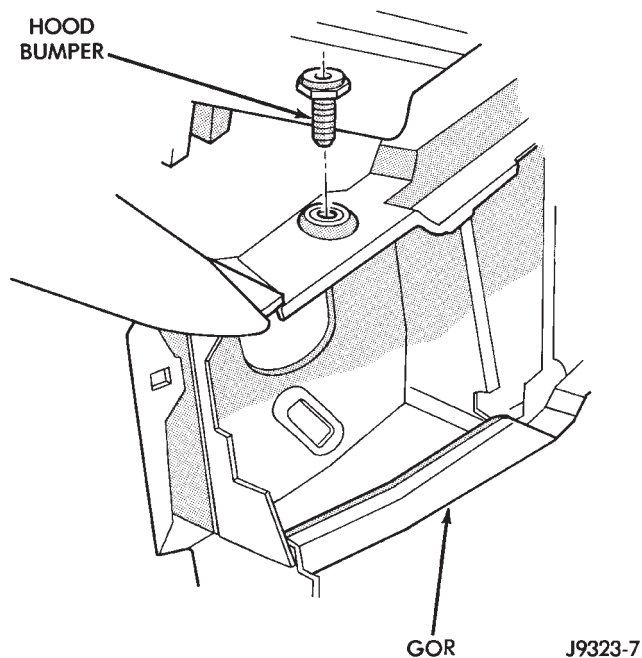

Fig. 78 Hood Bumper
- (1) If hood is low in relation to cowl panel, insert shims between hinge and hood.
- (2) Adjust hood bumper (Fig. 78) in or out to adjust hood-to-fender height alignment.
- (3) Adjust the hood latch as necessary. Tighten the nuts to 11 N·m (8 ft-lbs) torque after adjustment.
- (4) Align latch striker so that striker enters the latch squarely and without binding.